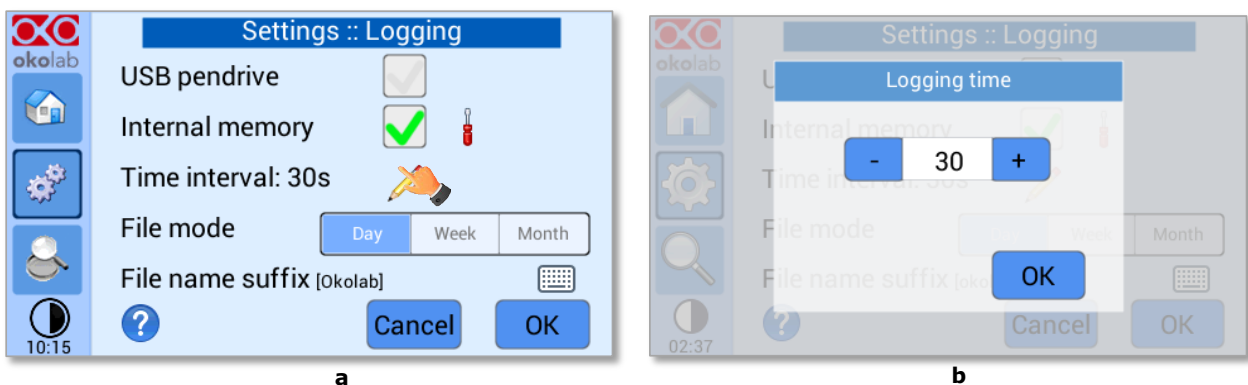
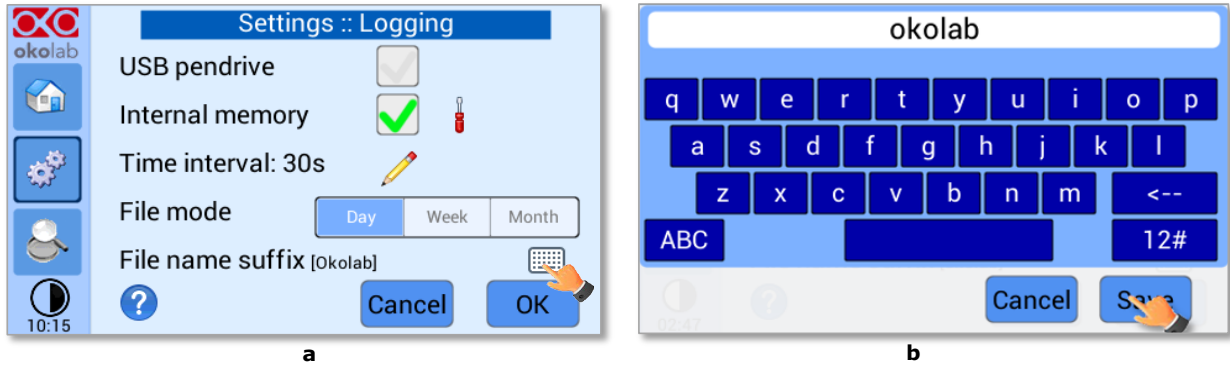
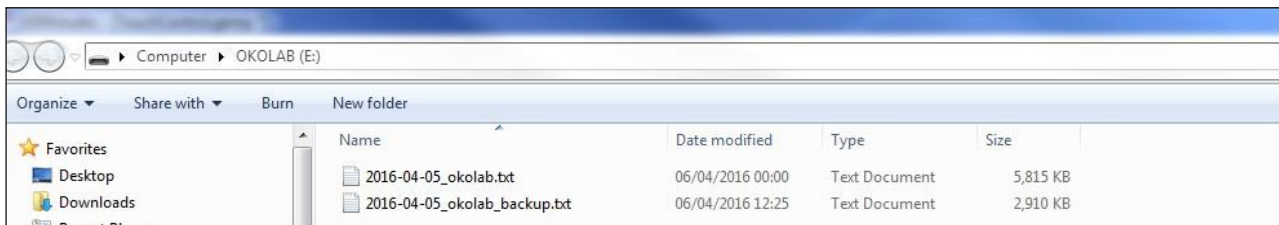

Figure 72. How to set the logging time (a – b).
Figure 73. Data Logging. How to define the suffix for the downloaded files (a – b).
Figure 74. Downloaded files on the pen drive.
- Press on the icon to insert the *Time Interval* i.e. the frequency with which you want to record a data point, as shown in Figure 72. In this example a data point is logged every 30 seconds, you can change *Time Interval* in the range 1-60 seconds.
- Choose how you want to organize the data when downloaded, by pressing on Day, Week or Month, see Figure 72 a.
5. Write the file name suffix to be reported in the downloaded files by pressing on the keyboard icon , see Figure 73 a.
6. Press Save, see Figure 73 b.
Tip ► With the selections as in Figure 72 and in Figure 73, the data will be downloaded on the USB drive as shown in Figure 74.